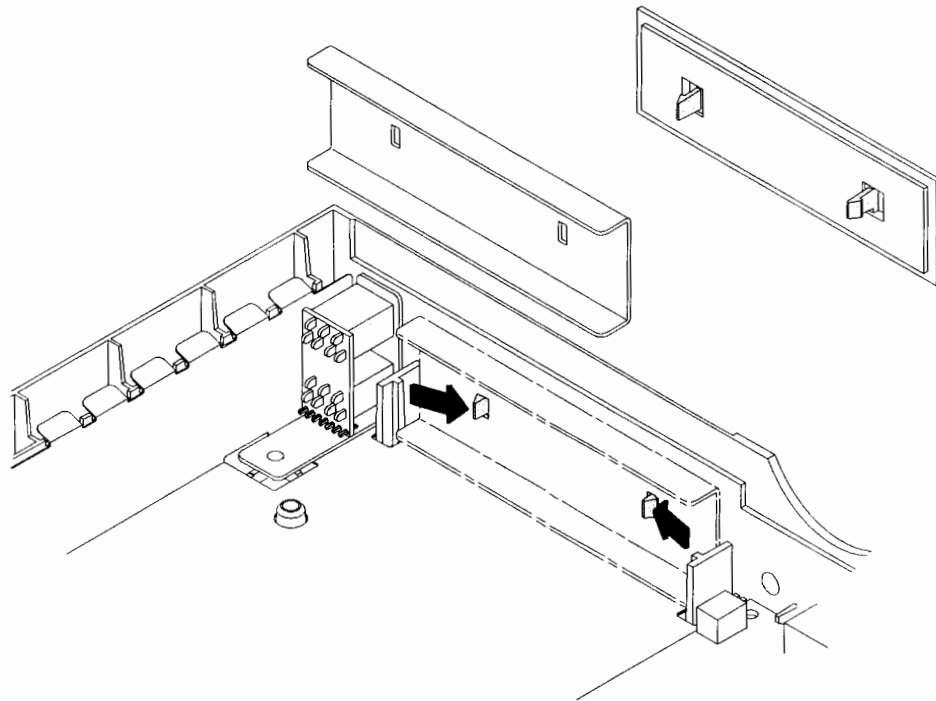

Figure B-48. Removing the EISA Filler Panel Assembly
4. Remove the EISA filler panel assembly as shown in Figure B-48.